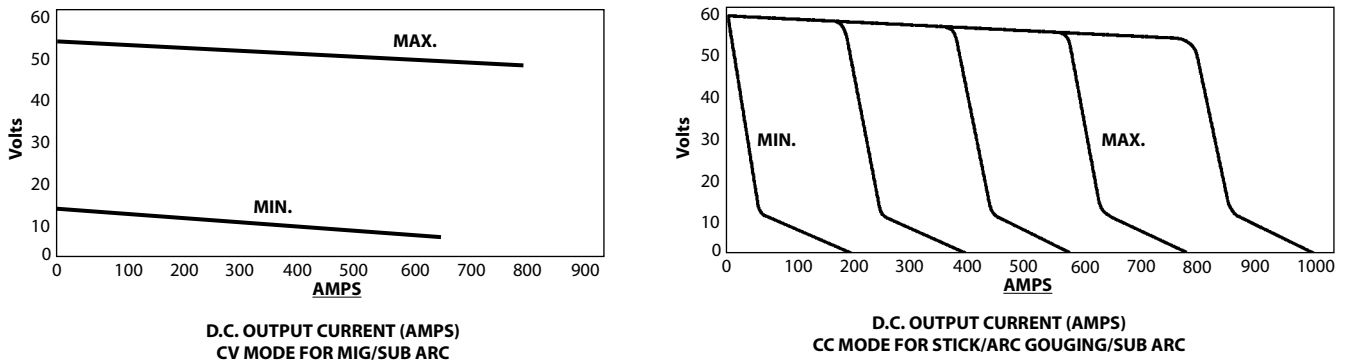

Figure 2-1. Volt-Ampere Curves
The curves shown in Figure 2-1 represent the volt-ampere static characteristics for the power source. The slant of these curves is referred to as the "slope" and is generally defined as the "voltage drop per 100 amperes of current use". These curves show the output voltage available at any given output current from the minimum to the maximum setting of the voltage control. Because the volt-ampere slope is fixed, it is possible to select welding conditions by estimating the open-circuit voltage required for the load current when operating in the CV mode.
- C. Thread the properly stripped input and ground conductors through the large strain relief in the rear panel of the power source. Connect the three input conductors to the three input terminals on TB3 (see figure 2-1). To connect the ground conductor, thread the ground wire through the ground fault switch bracket and connect to the ground lug provided on the A-Frame.